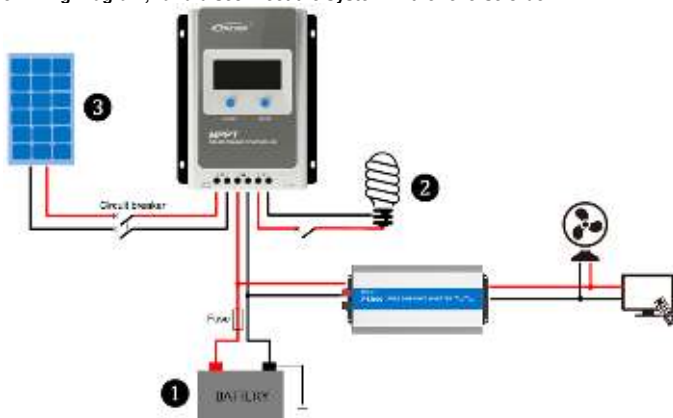

Figure 2-2 Wiring Diagram
Step 2: Connect the system in the order of battery -- load -- PV array following Figure 2-2," Schematic Wiring Diagram," and disconnect the system in the reverse order.